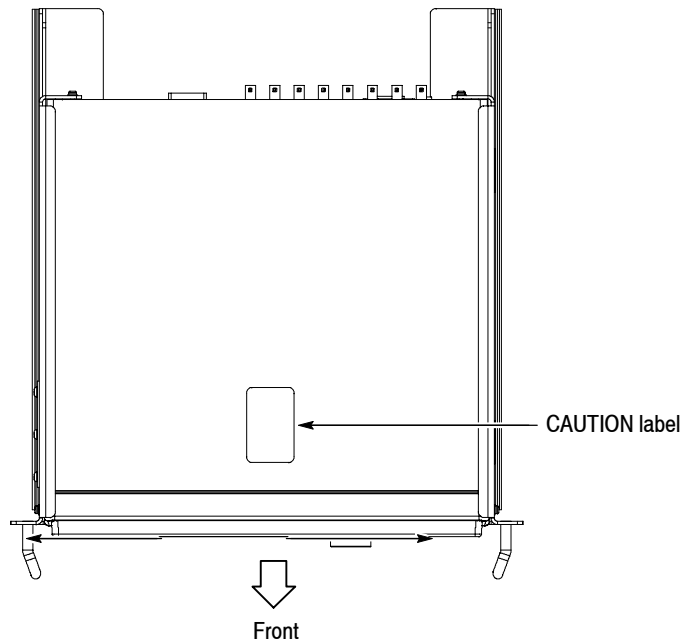

Figure 8: Applying the CAUTION label on the cabinet (top view)
- a. Remove the protective backing from the CAUTION label, and apply it to the top center of the cabinet. See Figure 8 on page 12.